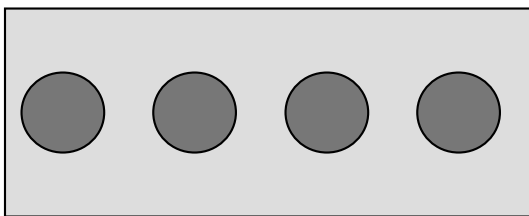
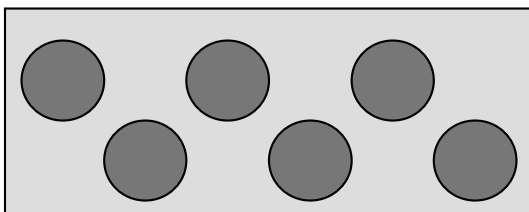

Figure 3a
Figure 3b
6.2 Prepare TDU enclosure by selecting and marking tube cable entry point locations. To best optimize TDU capacity, it is recommended to stagger tube cable entry locations if possible. See Fig. 3a and Fig. 3b.